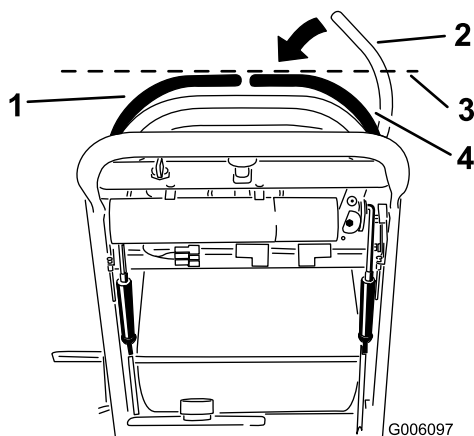

Figure 53
3. Push the right motion-control lever down out of the neutral-lock position (Figure 53).
4. Check if it aligns horizontally with the left motion-control lever (Figure 53).